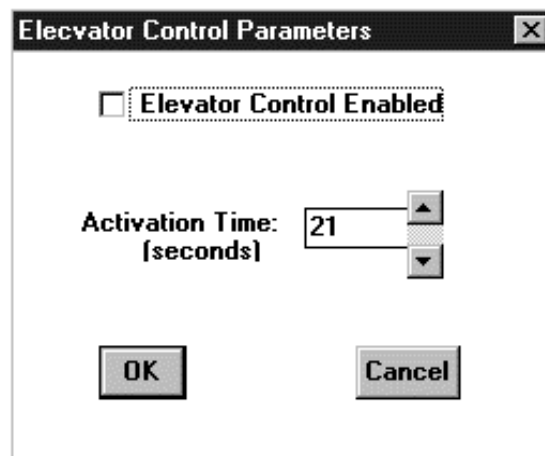

Figure 5.6.2.7
a) After selecting one of the **Elevator Control Parameters** per section 5.6.2.1, the following *Elevator Control Parameters* window (Figure 5.6.2.7) will appear: